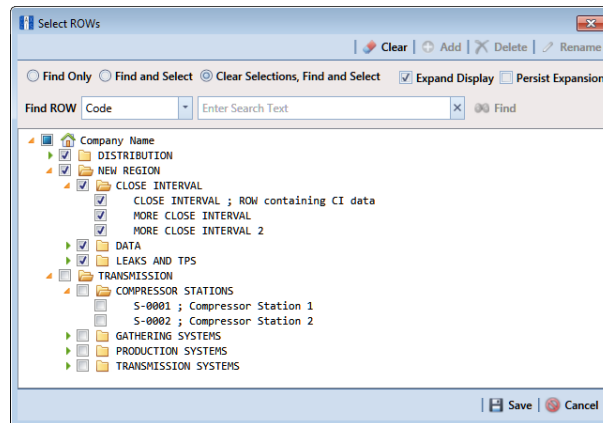

Figure 7-28. Select ROWs
- 1 Select one or more pipeline segments in the *Select ROWs* window (Figure 7-28). Select pipeline segments with facilities you want to work with, then click  **Save** to close the window.